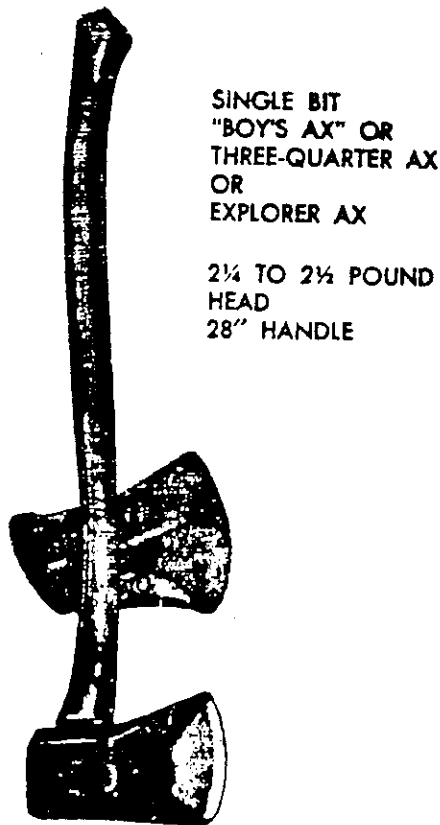

Figure 14 The Woodland
C. The Woodland Camping Axe is a $\frac{3}{4}$ sized axe. It has a 2 or 3 pound head and an 18 to 28 inch handle. This is the best size axe for youngsters, and it is a good all-around axe for adults who are on canoe trips or doing average camping in the woods. See Figure 14.